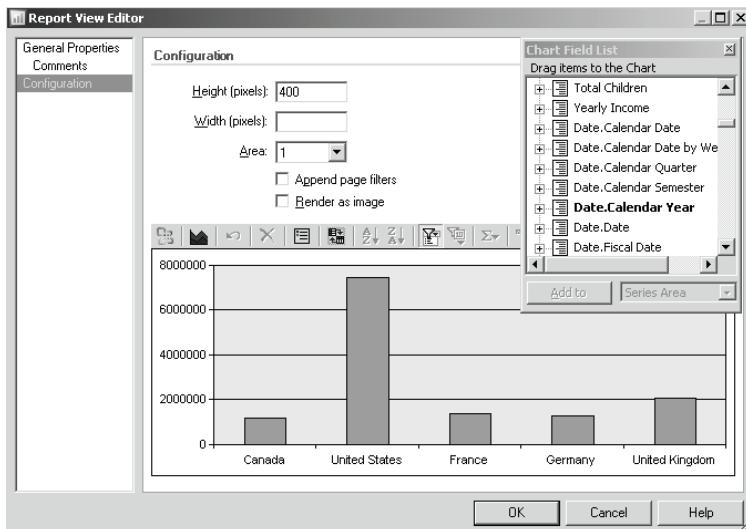

Figure 19.37 A Chart report view uses the OWC PivotChart component. You can render the report view as an image to avoid client-side dependencies to OWC.
13. Click Continue to navigate to the Report View Editor (Figure 19.37) where you can configure the chart.
16. Drag the *Sales Territory.Country* level on the chart categories axis and the Sales Profit measure on the chart series axis (see Figure 19.37). Click OK to create the report view.